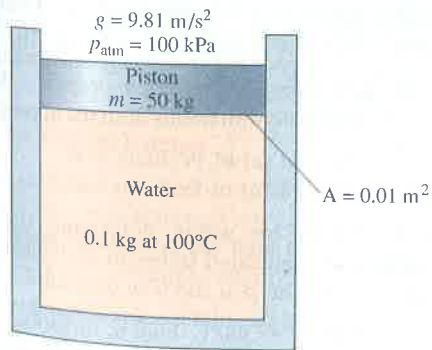

Fig. P3.21
- 3.21 As shown in Fig. P3.21 0.1 kg of water is contained within a piston-cylinder assembly at 100°C . The piston is free to move smoothly in the cylinder. The local atmospheric pressure and acceleration of gravity are 100 kPa and 9.81 m/s^2 , respectively. For the water, determine the pressure, in kPa, and volume, in cm^3 .